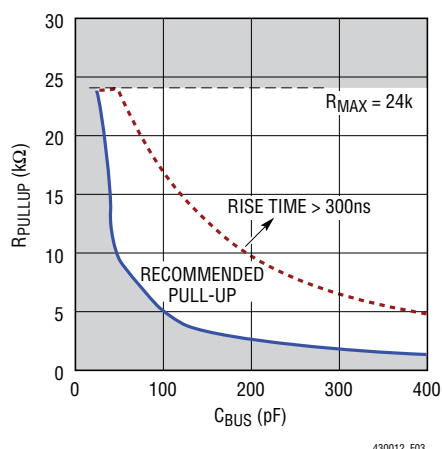

Figure 3. Bus Requirements for 3.3V Systems
**SCLOUT (Pin 2):** Serial Clock Output. Connect this pin to the SCL bus on the card. See Figures 3 and 4 for bus pull-up resistance and capacitance requirements.
**SCLIN (Pin 3):** Serial Clock Input. Connect this pin to the SCL bus on the backplane. See Figures 3 and 4 for bus pull-up resistance and capacitance requirements.
**SDAIN (Pin 6):** Serial Data Input. Connect this pin to the SDA bus on the backplane. See Figures 3 and 4 for bus pull-up resistance and capacitance requirements.
**SDAOUT (Pin 7):** Serial Data Output. Connect this pin to the SDA bus on the card. See Figures 3 and 4 for bus pull-up resistance and capacitance requirements.
In addition, regardless of the bus capacitance, always choose  $R \leq 16\text{k}$  for  $V_{CC} = 5.5\text{V}$  maximum,  $R \leq 24\text{k}$  for  $V_{CC} = 3.6\text{V}$  maximum. The start-up circuitry requires logic high voltages on SDAOUT and SCLOUT to connect the backplane to the card, and these pull-up values are needed to overcome the precharge voltage. See the curves in Figures 3 and 4 for guidance in resistor pull-up selection.
The LTC4300 I/O connection circuitry requires a minimum capacitance loading on the SDA and SCL pins in order to function properly. The value of this capacitance is a function of  $V_{CC}$  and the bus pull-up resistance. Estimate the bus capacitance on both the backplane and the card data and clock busses, and refer to Figures 3 and 4 to choose appropriate pull-up resistor values. Note from the figures
NOTE: APPLICATION ASSUMES BUS CAPACITANCES WITHIN "PROPER OPERATION" REGION OF FIGURES 3 AND 4